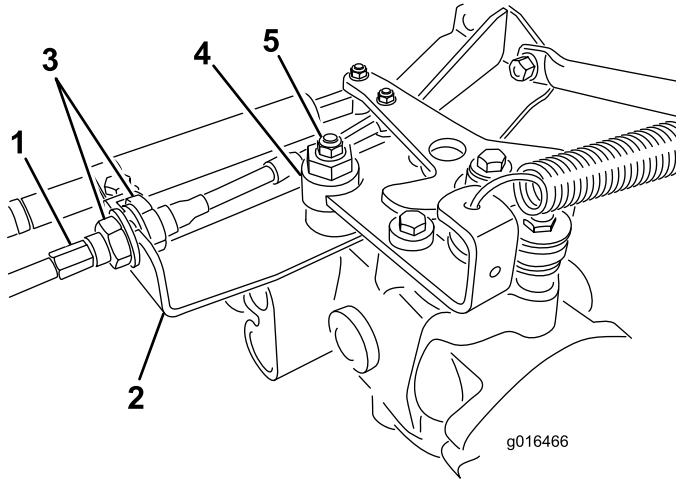

Figure 42
- A. Loosen both jam nuts securing the traction-control cable to the bulkhead on the hydrostat (Figure 42). Ensure that the jam
Note: Loosen the nut securing the eccentric to the top of the hydrostat (Figure 42).
- E. When the wheel stops rotating, tighten the nut locking the eccentric and the adjustment (Figure 42).
- G. From each side of the bulkhead, tighten the locknuts evenly, securing the traction cable to the bulkhead (Figure 42). Do not twist the cable.